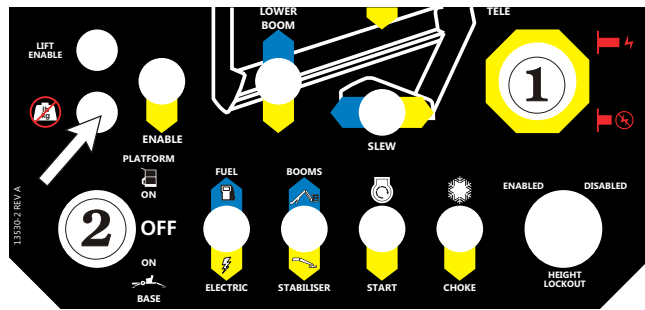

Figure 9.1 - Ground Control Box
1. The **Emergency Stop** switch ① must be ON (Out) (see Figure 9.1).
2. The **Platform/Ground Selector** switch ② (see Figure 9.1) must be set to PLATFORM.